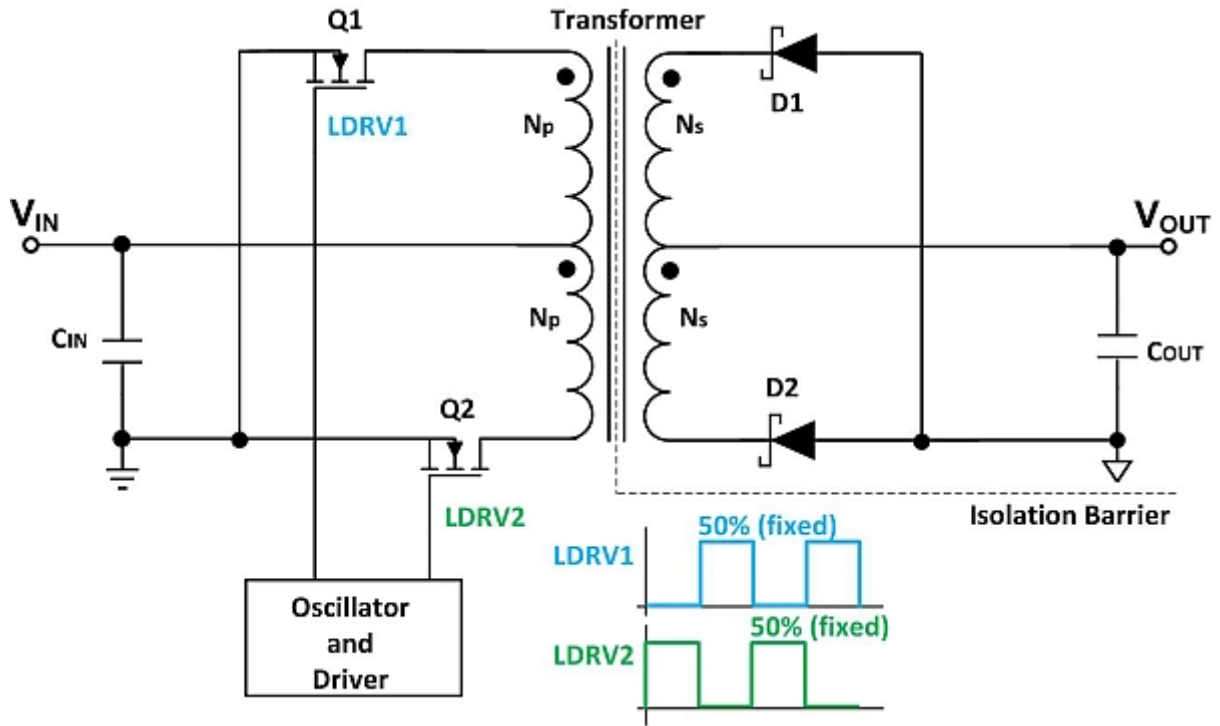
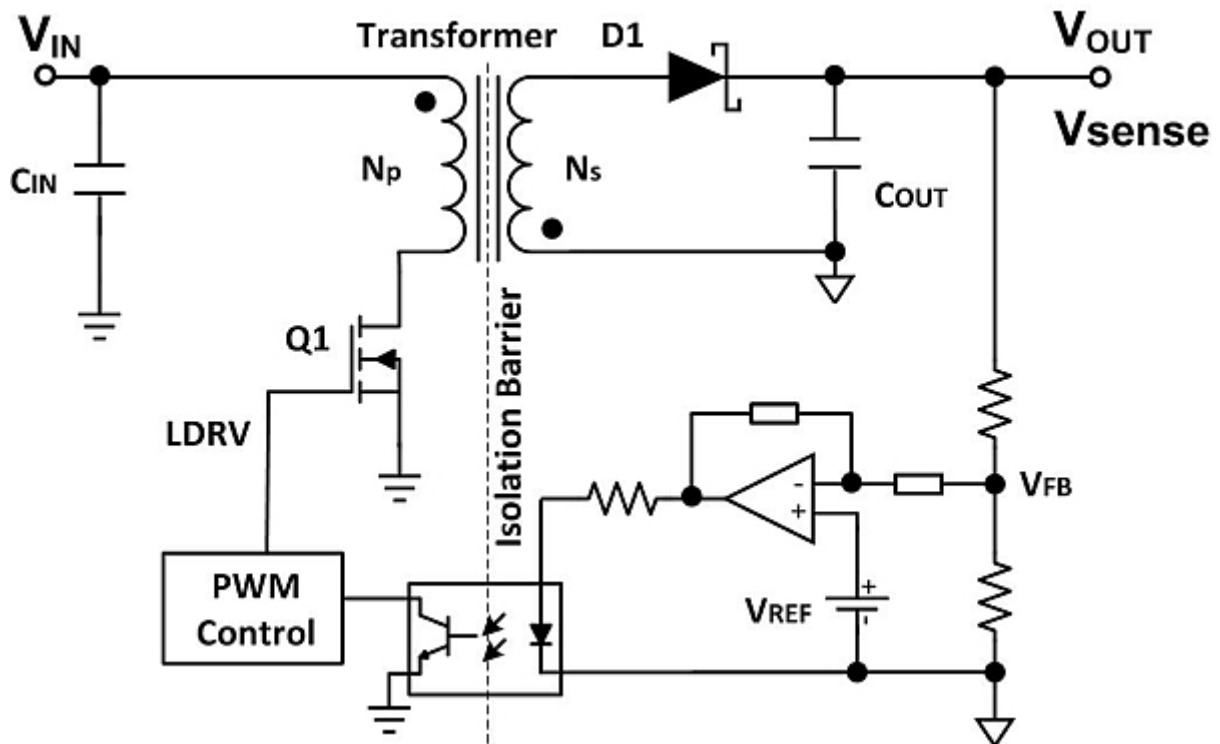
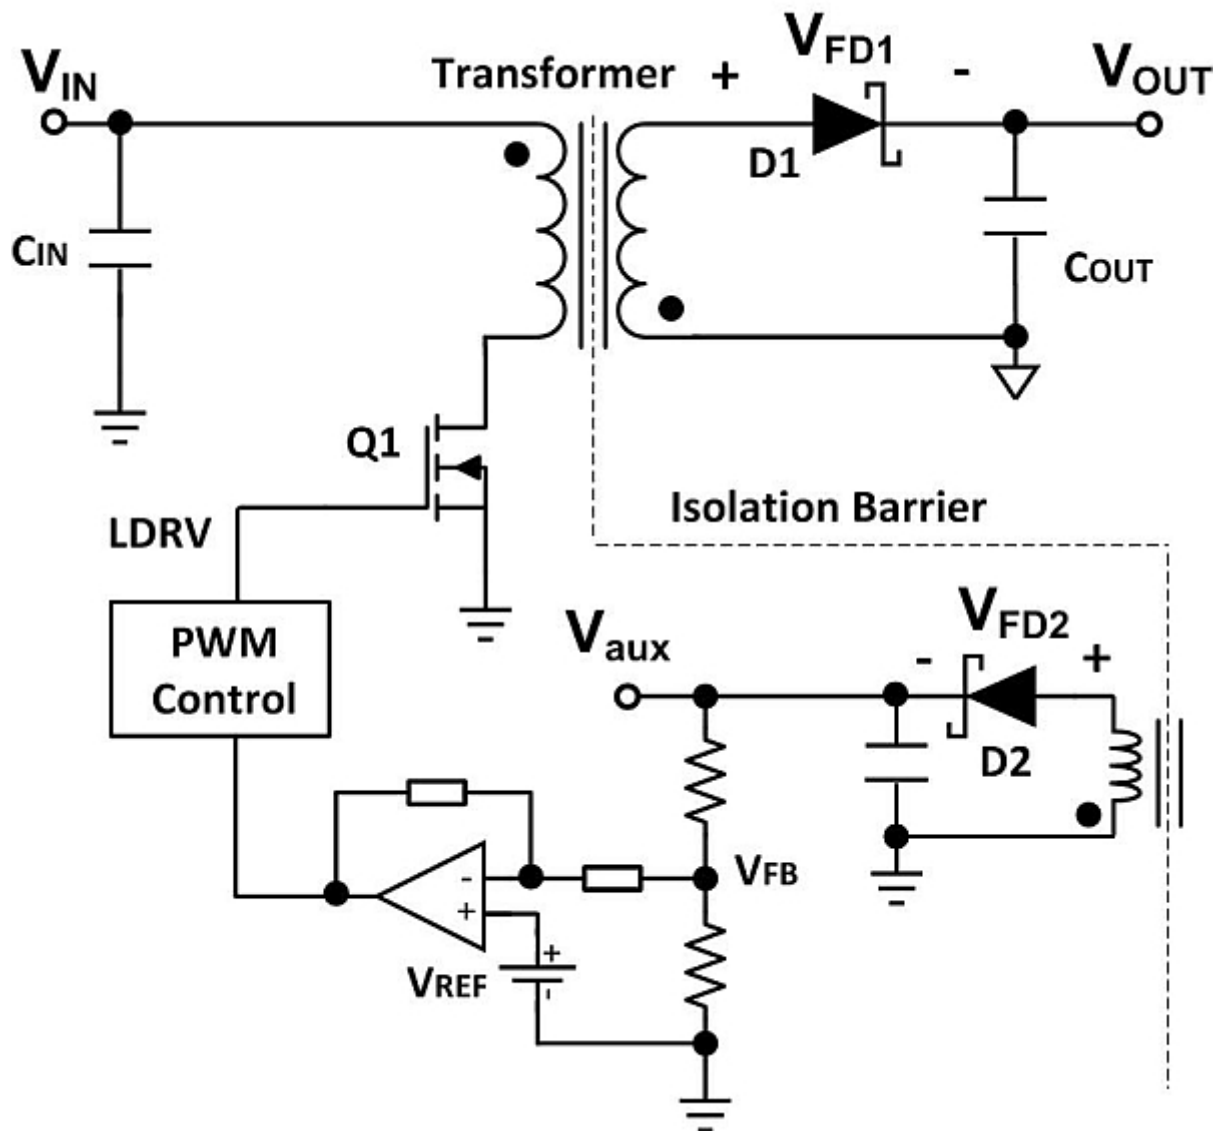

Figure 3. Unregulated push-pull converter with fixed 50% duty cycle
Figure 5. Regulated flyback converter using an optocoupler
Figure 8. Flyback converter with cross-regulated output
Unregulated isolated DC/DC converters, also known as open-loop isolated DC/DC converters, are widely used in applications that don't require precise output voltage. A typical example is the push-pull converter with fixed 50% duty cycle (**Figure 3**). The control circuitry consists of only an oscillator along with two gate drivers, which generates two complimentary fixed 50% duty cycle gate signals to drive Q1 and Q2. The transformer turns ratio is selected to deliver the desired output voltage. Neither a feedback circuitry nor a signal isolator is required, which reduces cost and solution size.
Input voltage, load current, and ambient temperature all have an impact on the output voltage accuracy in an unregulated isolated DC/DC converter. This is not acceptable to applications where a precise output voltage and tight regulation are critical, and a regulated isolated DC/DC converter should be adopted. A flyback converter in **Figure 5** is taken as an example to elaborate how the tight regulation is achieved. Compared with the unregulated push-pull converter (**Figure 3**), the regulated flyback converter has an additional feedback circuitry. Also an optocoupler is used to transfer the control signal from the secondary side to the primary side while achieving galvanic isolation.
A flyback converter can easily generate multiple outputs without any additional output filter inductor which is usually required by other DC/DC converter topologies. In the multiple outputs configuration (**Figure 8**), only one output (V_{aux}) is directly regulated while others (V_{OUT}) rely on cross regulation. By referring the regulated output (V_{aux}) commonly with the input (V_{IN}) on primary side (**Figure 8**), the optocoupler of the regulated flyback converter in **Figure 5** can be eliminated. The isolated output (V_{OUT}) on secondary side can be given by (4):